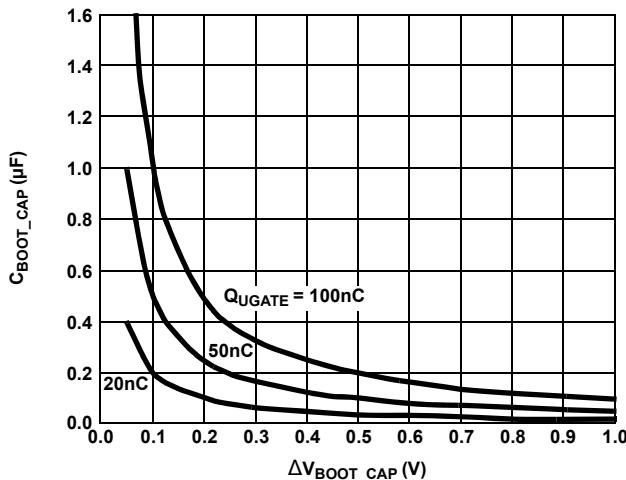

Figure 5. Bootstrap Capacitance vs Boot Ripple Voltage
- $\Delta V_{\text{BOOT\_CAP}}$  is defined as the allowable droop in the rail of the upper gate drive. Select results are exemplified in Figure 5 on page 9.